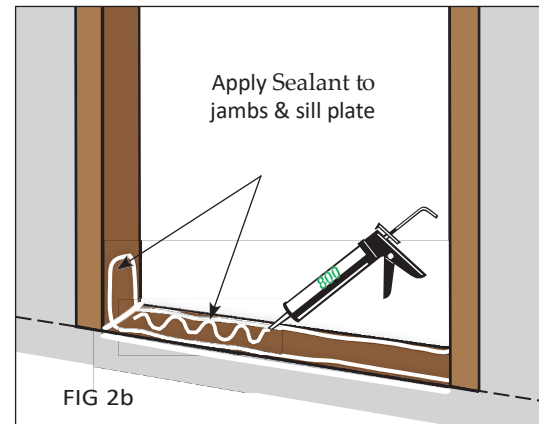

FIG 2b
- Remove pan and apply a 3/8" bead of Sealant where the pan will contact the framing and sill. (Fig. 2b)